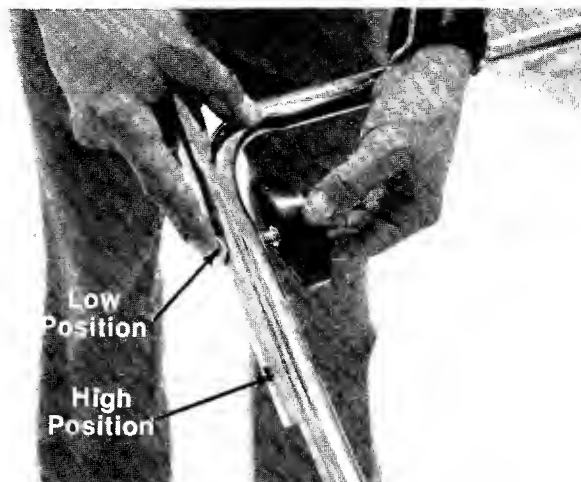

FIGURE 12.
4. There are two height positions for the handle. Place upper handle in position over lower handle, selecting hole for either high or low position. Refer to figure 12.
The upper handle can be adjusted to a high or low position. The adjustment is made by removing the two knobs or hex nuts and lock washers, removing the two curved carriage bolts and reassembling in the other position. See figure 12.